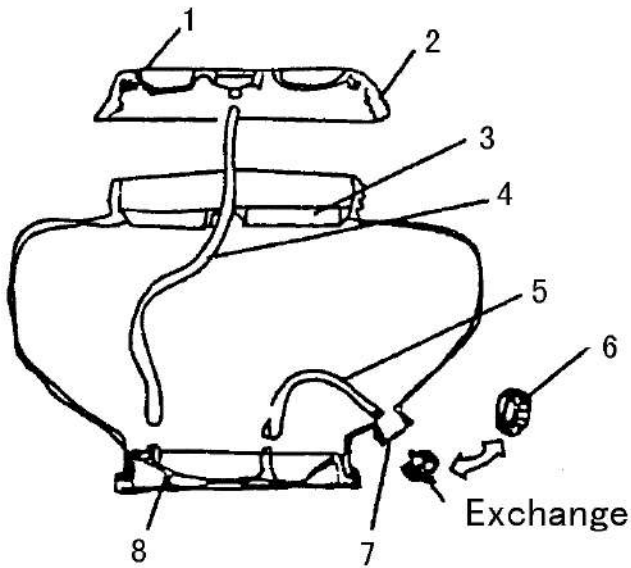

Fig.2
3). Connect the lid to the rubber tube as shown in Fig.2.